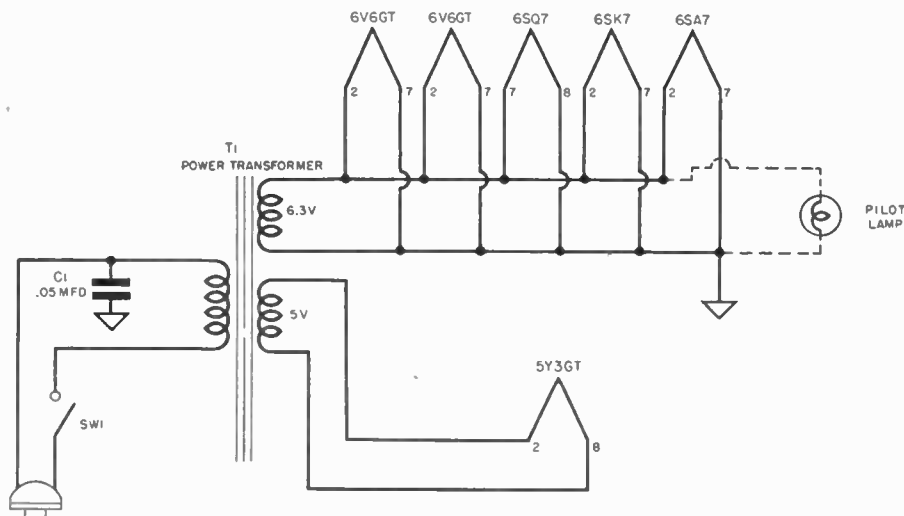

Fig. 2-30. Wiring the heater circuit.
a) *Heater Circuit.* Figure 2-30. Note that, as in all transformer types of sets, the tube heaters are wired in parallel. Connect one end of the power transformer 6.3 volt winding (leads are usually green) to pin 2 of the